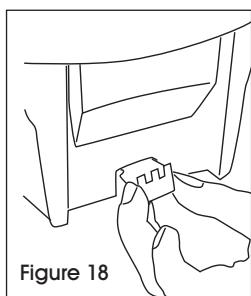

Figure 18
- Re-install the latch piece in the bottom of dispenser with the slotted side away from the wall and toward the front of the dispenser. Push the latch piece into the dispenser until it snaps into place. (See Figure 18)